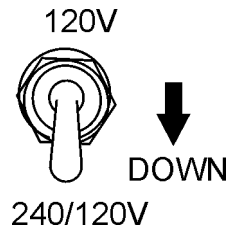

Figure 19. Full Power Switch (Down)
- Place** the **full power switch** (Figure 19) in the **"240/120V"** (Down) position.